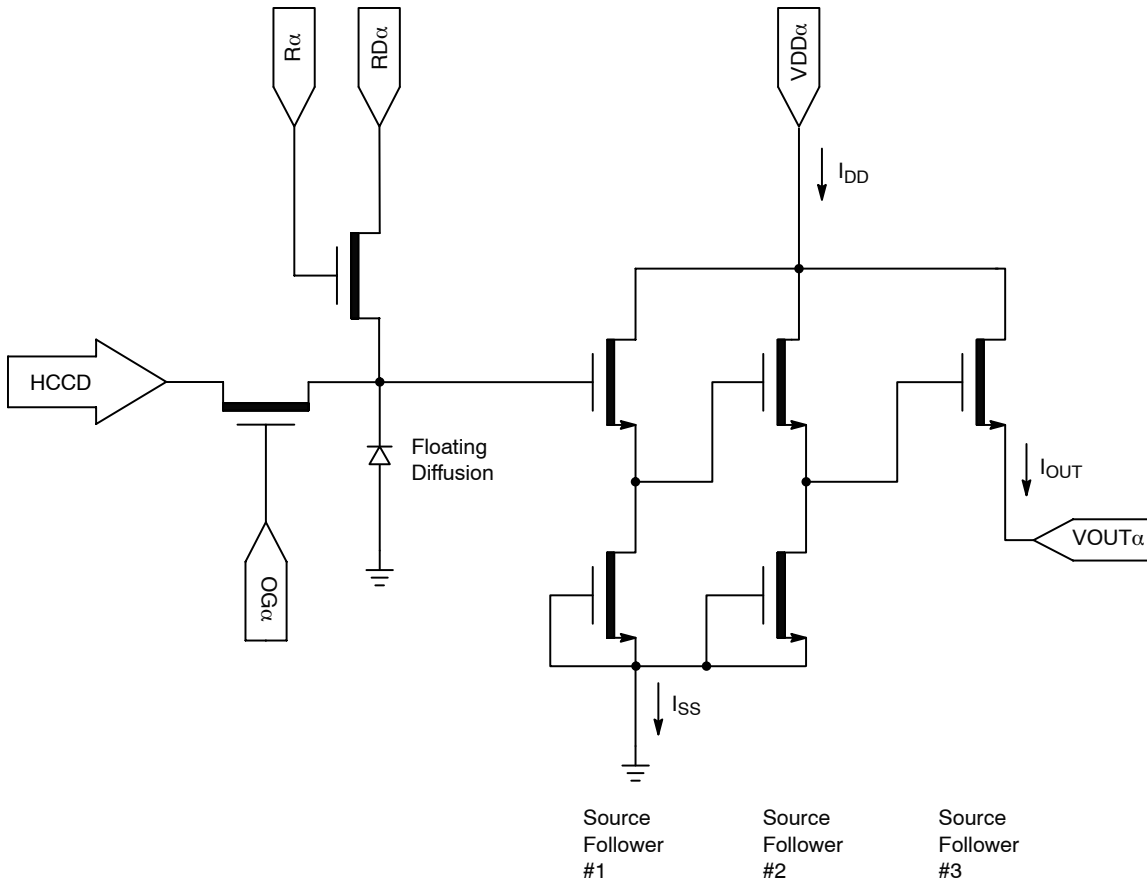

Figure 18. Output Amplifier
2. The maximum DC current is for one output. I_{DD} = I_{OUT} + I_{SS}. See Figure 18.